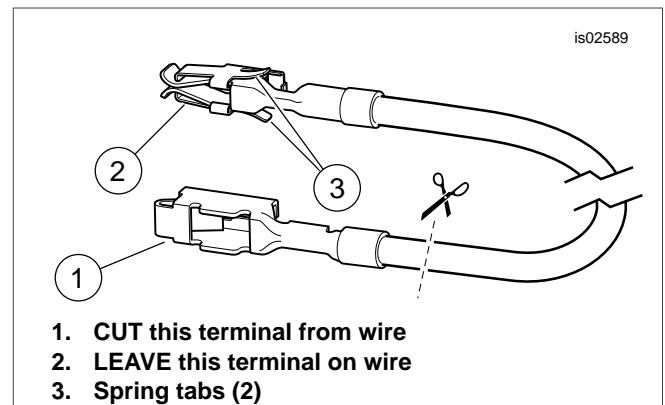

Figure 3. Fuse Block Adapter Wire (Dyna and Softail)
2. Obtain the orange/white fuse block adapter wire (6) from the kit. Note the terminal on each end (see Figure 3). Only the terminal **WITH the spring tabs** will fit into the fuse cavity. Carefully cut the terminal **WITHOUT** spring tabs from the wire and discard it.
3. Obtain the orange/white fuse block adapter wire (6) from the kit. Note the terminal on each end (see Figure 3). Only the terminal **WITH the spring tabs** will fit into the fuse cavity. Carefully cut the terminal **WITHOUT** spring tabs from the wire and discard it.